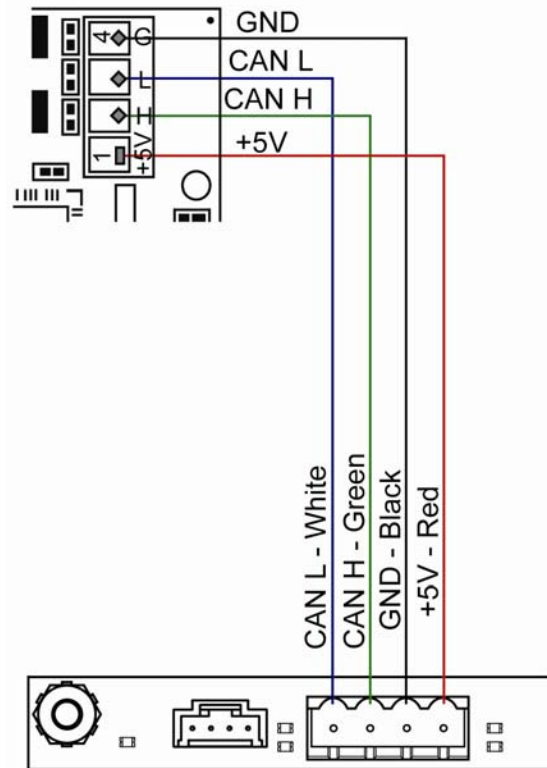

Figure 5: CAN Temperature Sensor Connection - M4 Controller
2. Use a 2-pair, 22 AWG, individually shielded cable to connect the sensor to the 4-position terminal block in the display labeled TB1. Connect to the controller as shown in **Figure 5**.
5. Connect the cable coming from the controller's terminal block to the temperature sensor board in the temperature sensor housing. Refer to **Figure 5** and the following table for wiring locations and connections at the sensor and to the controller.